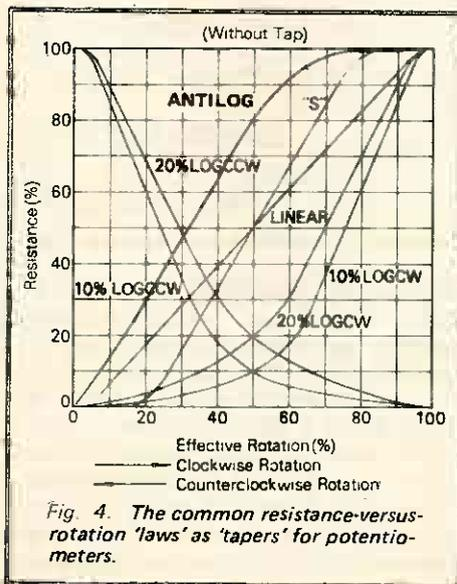

Fig. 4. The common resistance-versus-rotation 'laws' as 'tapers' for potentiometers.
The resistance 'law' of a potentiometer refers to the manner in which the resistance changes (as measured between as end terminal and the wiper terminal) with rotation of the shaft. There are a considerable number of different 'laws' in common use. The main ones however are: linear, logarithmic, and 'S' law. These are illustrated in Figure 4. Note that various log laws are used, the 20% log law is the more common one however. The laws for both clockwise (CW) and counter-clockwise (CCW) log are
Other laws include semi-log and linear-tapered. These have curves that lie between the log and linear curves on the graph in Figure 4. The semi-log law provides a somewhat greater change of resistance-versus rotation over the first 40% of shaft rotation than with the log curve. The linear-taper provides a nearly logarithmic variation over the first 50% of shaft rotation and a linear variation thereafter.